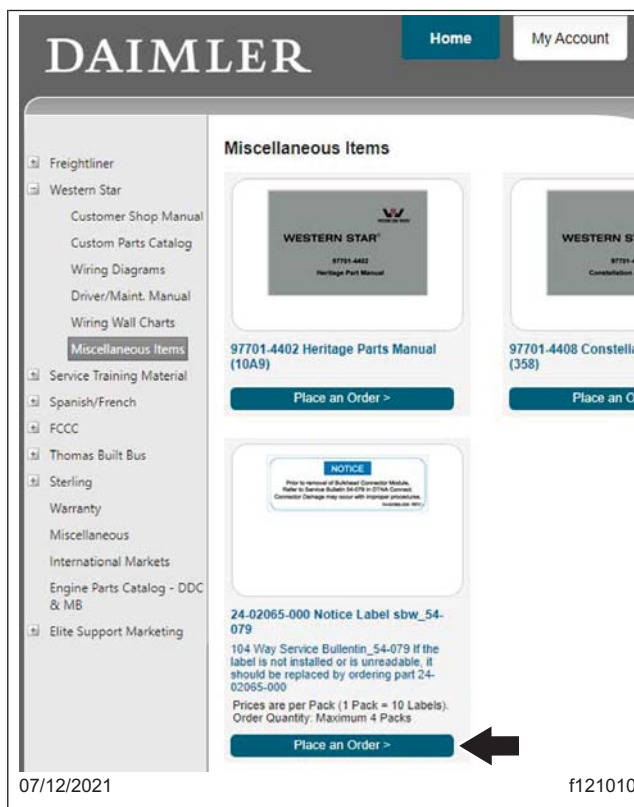

Fig. 6, 'Place an Order' Button
- Locate item 24-02065-000 'Notice Label sbw_079.'
- Select 'Place an Order.' See Fig. 6.